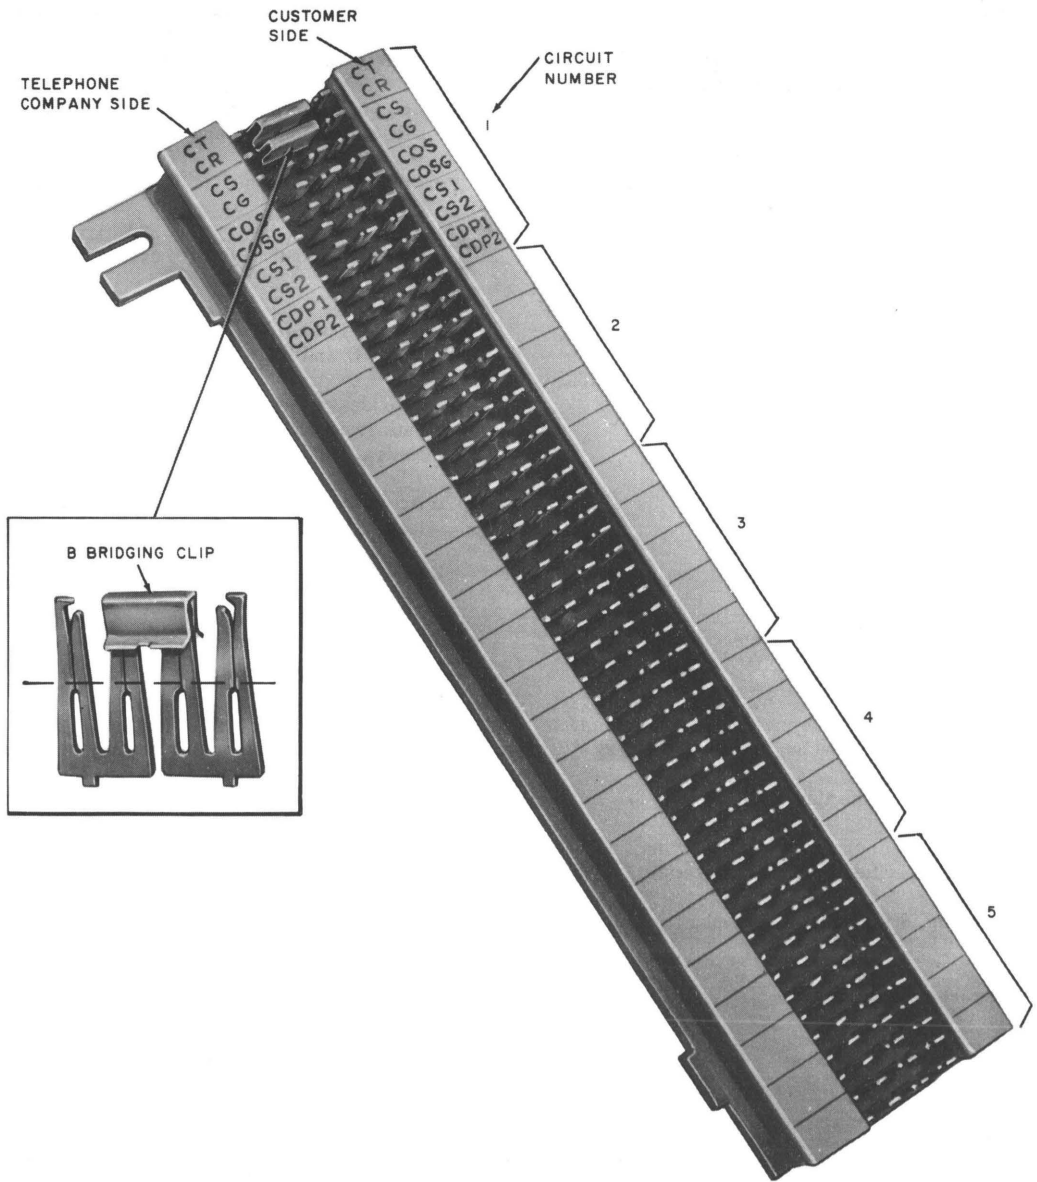

Fig. 3—66M1-50 Interface Connecting Block
- Block, Connecting, 66M1-50 (Fig. 3)
**3.03** Use "D" inside wiring cable or equivalent to terminate the leads associated with the CPE on the interface connecting block. Stencil trunk number and lead designations on interface connecting block designation strip (see Fig. 3).